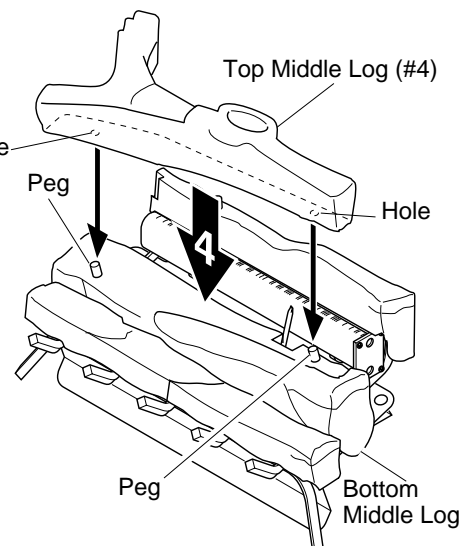

Figure 26 - Installing Top Log (#4)
4. Place the top middle log (#4) on the bottom middle log (#2). Make sure the pegs of the bottom middle log fit securely in the holes of the top middle log (see Figure 26).